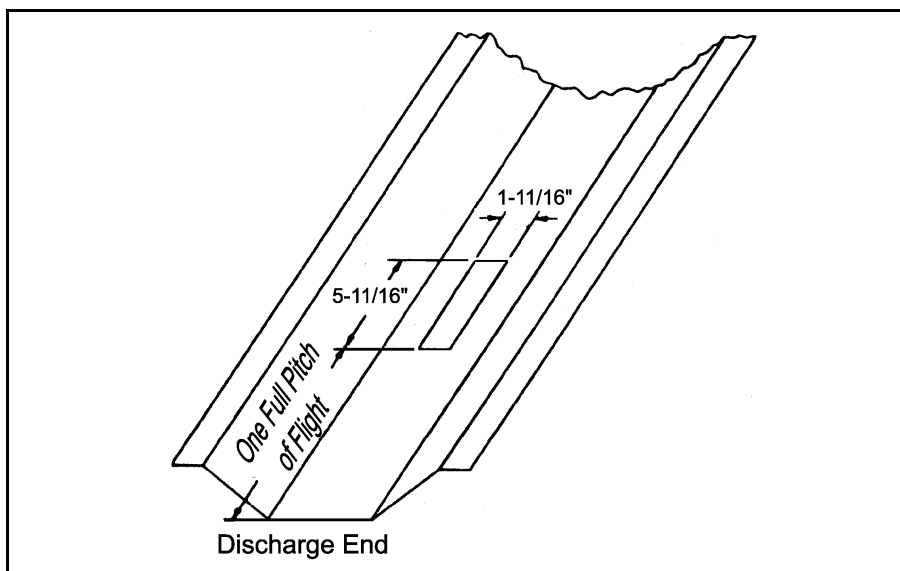
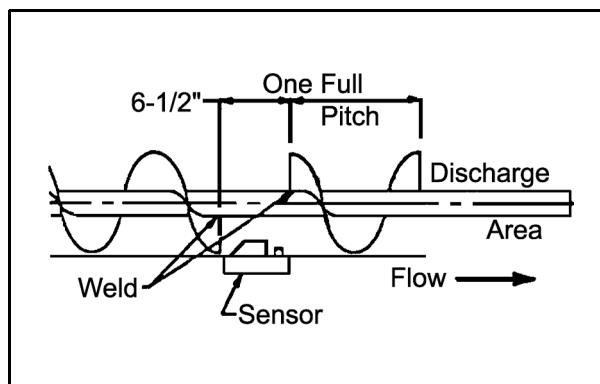

Figure 4D
Figure 4E
1. Determine where the sensor can be located. (See Figure 4D). There must be at least one full pitch of flight before and after the sensor. (See Figure 4E).
2. Remove the flat bottom pan and mark the sensor cutout area at least one (1) pitch length of the auger from the discharge area. This allows for good pickup of the grain when it leaves the sensing area. Cut the sensor rectangle 1-11/16" x 5-11/16" with a saber saw (do not torch cut) and check so the sensor block fits into it with the stepped edge. (See Figure 4D).
Note: For seven (7)" flight or less, cut the flight to the shaft. Weld the auger flight to the shaft at each end of the six and one half (6-1/2)" cutout marks, then cut out the six and one half (6-1/2)" of flighting from the auger, leaving only the drive tube. For eight (8)" or larger diameter flighting, one-half (1/2)" of flighting can be left as a ribbon around the shaft in the cutout area. (See Figure 4E).